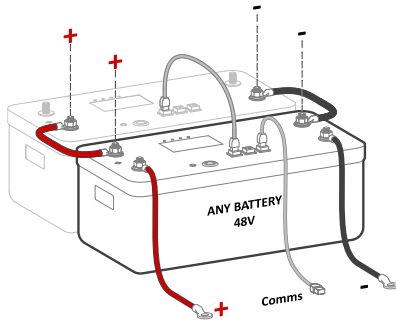

Figure 5a: 48V batteries in parallel connection
- Depending on battery voltages, wire up the battery bank in the next possible configurations (see figures 5a-5c).